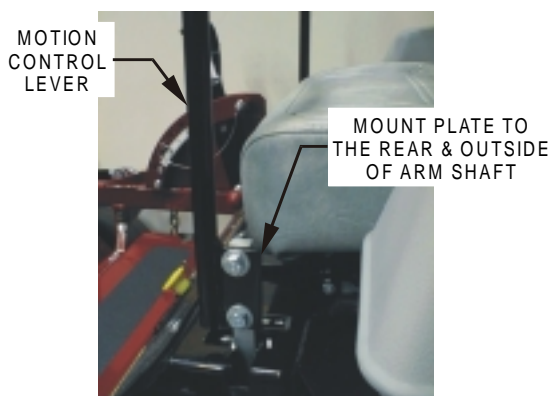

FIG. 1
- 3.6.1 Loosen and remove the two (2) 3/8" x 1" bolts and spring disc washers which attach the motion control levers to the control arm shafts for shipping and the two (2) 3/8" x 1" bolts and spring disc washers which are screwed into the control arm shafts.
- a) Install the left motion control lever onto the control arm shaft (See Fig.1) on the left side of the console. Place the lever (with the mounting plate towards the rear) on the **outside** of the control arm shaft and secure with the bolts and washers. Position the lever so the bolts are in the center of the slots on the